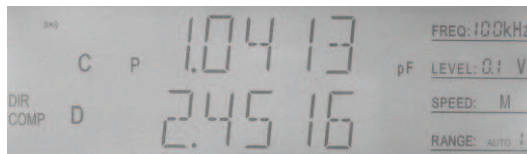

Figure 4-7 Comparison function on/off
4. Press **COMP** key, "COMP" is displayed on LCD, which means comparison function has been turned on, as shown in Figure 4-7.